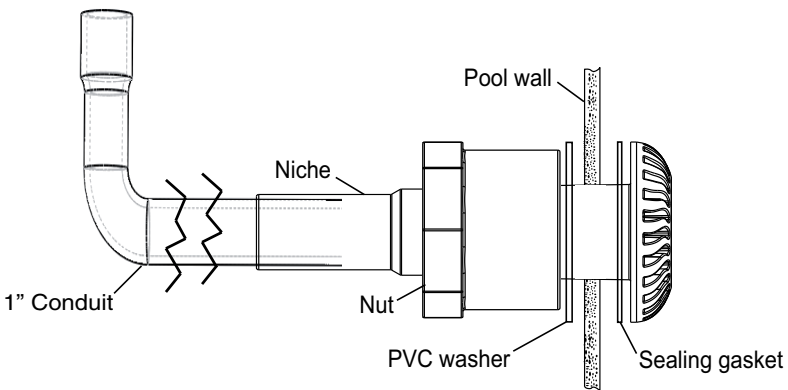

**Figure 1: Gunite Light Installation Diagram**
**BEFORE STARTING:** The following information describes the tasks that must be completed by the electrician *before* the light fixture is installed. See Figure 1 on page 7.
- The Junction Box and the low voltage transformer is located at least eight (8) inches (20.3 cm) above ground level and at least 48 inches (1.22 m) from the edge of the pool. See Figure 1 on page 7.
1. **Install Sleeve:** Locate position on vertical pool or spa wall where light is to be installed. The top of the light lens must be a minimum of four (4) inches below normal water level. Refer to Figure 1 on page 7 for the exact depth requirements.
6. Install the conduit. See Figure 1 on page 7.
2. At the 12 VAC transformer or junction box, cut off any extra cord. Leave at least six (6) inches (15.2 cm) of cord in the Junction Box or transformer to facilitate the light installation, niche inspection. Cut off any extra cord. See Figure 1 on page 7.
3. Strip back the outer cord jacket of the wires to expose the two (2) insulated conductors. Strip back the two conductors. Be careful not to damage the copper conductor.
4. Connect the two (2) conductors to the corresponding circuit wires in the Junction Box (black wire to power, white wire to common). Secure the Junction Box cover.
- The Junction Box and the low voltage isolation transformer is located at least eight (8) inches (20.3 cm) above ground level and at least 48 inches (1.22 m) from the edge of the pool. See Figure 1 on page 7.